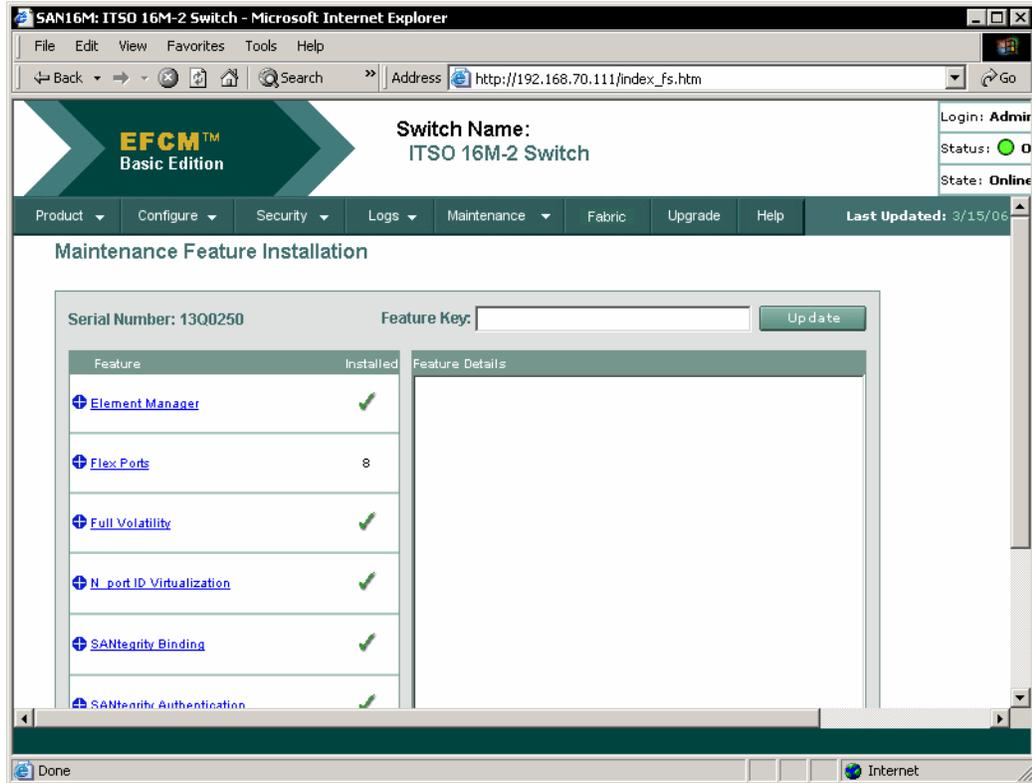

Figure 52 EFCM Basic - feature install
3. Type the PFE key in the Feature Key field and click **Update**. The interface refreshes and indicates the update changes in the Feature panel, as shown in Figure 52.